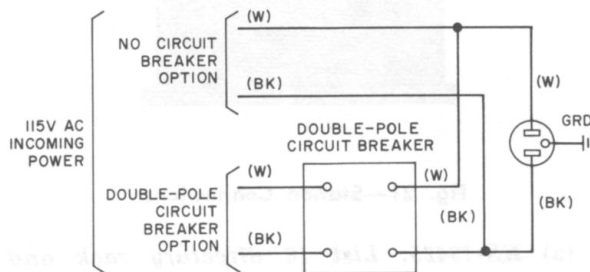

Fig. 23—Power Connections
**3.17** Refer to Fig. 23 for optional methods of electrical wiring.